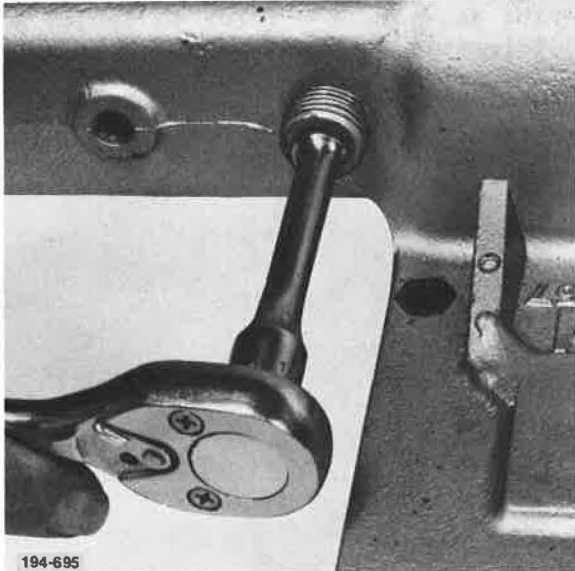

Figure 247. Installing Plug
18. Install interlock plunger plug into shift cover. See Figure 247.